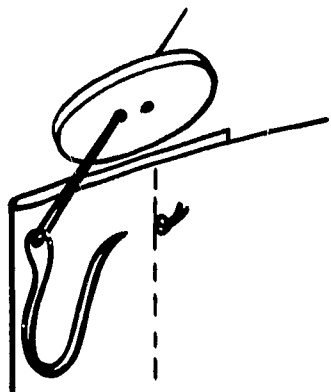

Figure 90.
1. Insert the needle through the fabric on the right side of the garment to hide the knot under the button (see Figure 90).
2. Bring the needle up through the fabric and through one hole of the button (see Figure 90).